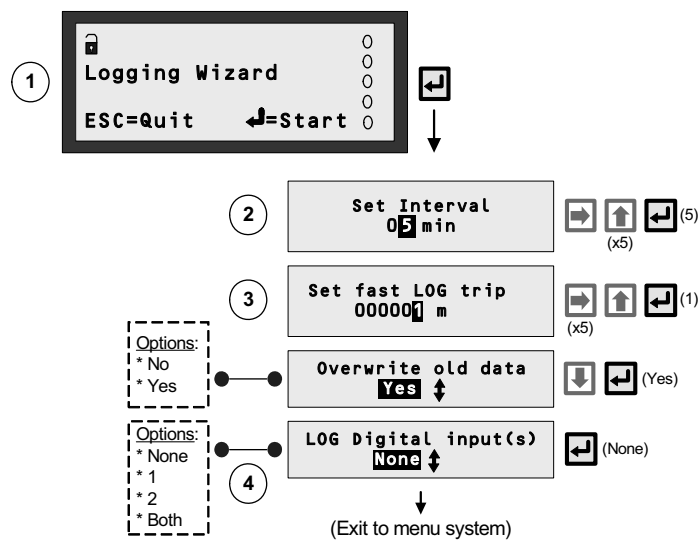

Figure 20: Logging Wizard – Logging of level measurements
3. Work through the “Duty” Wizard prompts (Figure 20) until completion; this occurs when the menu system re-appears. Keypad hints, for the illustrated Wizard sequence on the next page, are provided alongside the prompts. If applicable, adapt the example to suit your application.
- ① Press the yellow (**ENTER**) button *once*
- ② Set the logging interval to once every 5 minutes (see **P590**)
- ③ Set Fast Log Mode to activate at one metre or more (see **P591**). Units are dependent on PV units (**P200**).
- ④ Select the “None” option if no digital inputs are to be configured.